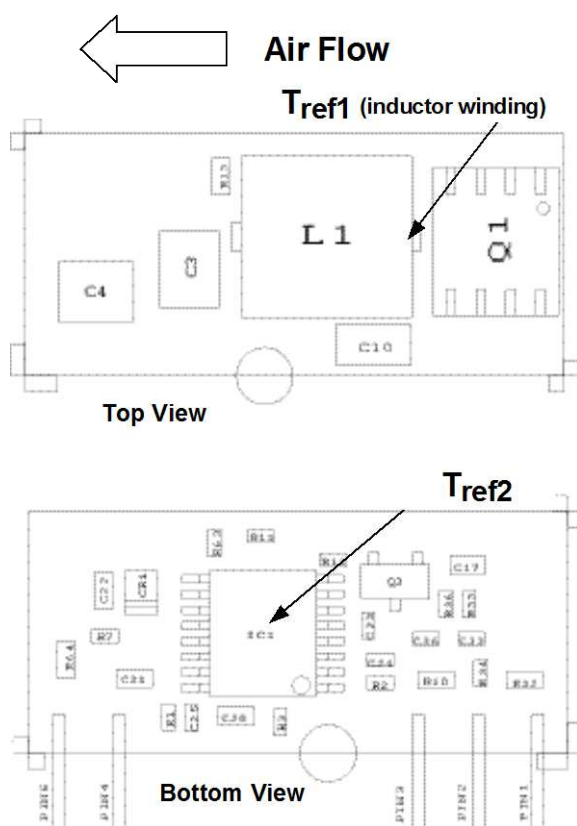
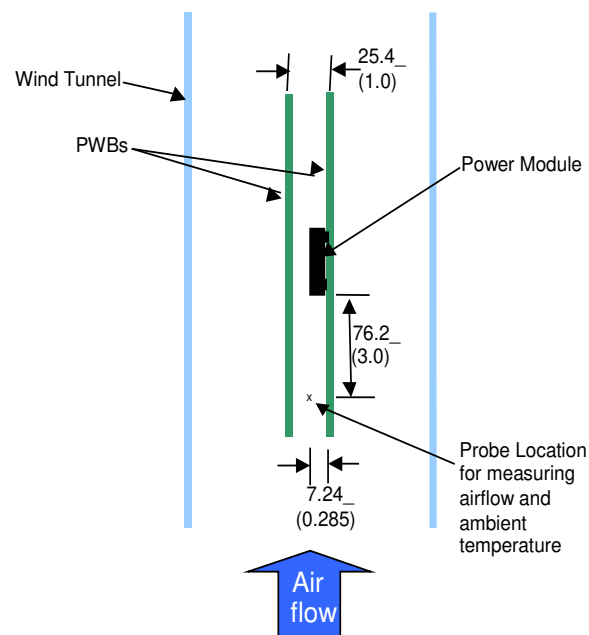

Figure 32. Tref Temperature measurement location.
Figure 33. Thermal Test Set-up.
To provide over temperature protection in a fault condition, the unit relies upon the thermal protection feature of the controller IC. The unit will shutdown if the thermal reference point  $T_{ref2}$ , (see Figure 33) exceeds 140°C (typical), but the thermal shutdown is not intended as a guarantee that the unit will survive temperatures beyond its rating. The module will automatically restarts after it cools down.
Considerations include ambient temperature, airflow, module power dissipation, and the need for increased reliability. A reduction in the operating temperature of the module will result in an increase in reliability. The thermal data presented here is based on physical measurements taken in a wind tunnel. The test set-up is shown in Figure 33. Note that the airflow is parallel to the long axis of the module as shown in Figure 32. The derating data applies to airflow in either direction of the module's long axis.
The thermal reference point,  $T_{ref1}$  used in the specifications of thermal derating curves is shown in Figure 32. For reliable operation this temperature should not exceed 125°C.